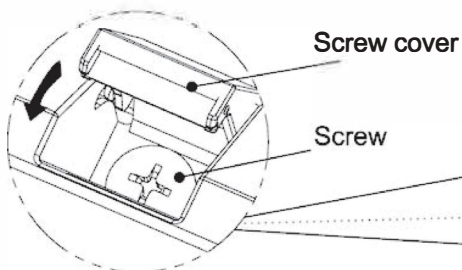

Fig.C.5.23
- 11) Install the screws and close the screw covers as shown in Fig. C.5.23 (Note: For some models, you need to install 3 screws.)